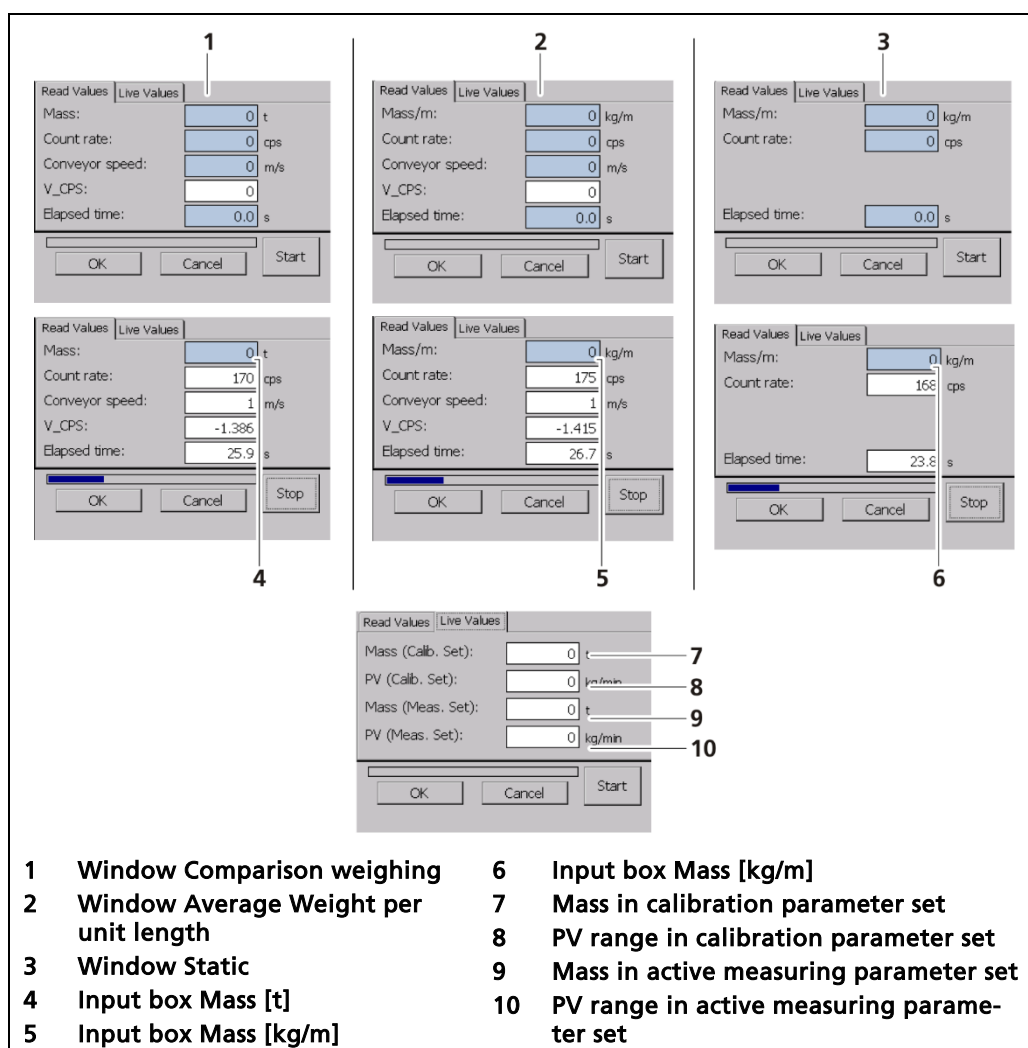

Fig. 91 Calibration points (read-in value / measured value)
- 6. Enter the measured result of the comparison set of scales in the input box "Mass", "Mass/m" (Fig. 91, item 4, item 5 or item 6).